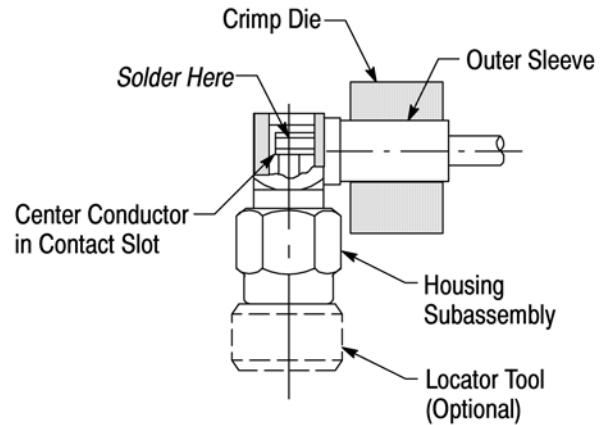

Figure 3
- Secure the housing subassembly to the locator tool as shown in Figure 3. Secure the housing subassembly in a small bench vise.
5. Insert the center conductor into the housing subassembly, making sure that the center conductor sits in the contact slot and is flush to below the contact. See Figure 3.
6. Place the soldering iron on the tip of the contact, and solder. Refer to Figure 3.
7. Slide the outer sleeve over the cable braid, and crimp the outer sleeve in place. Trim excess braid strands. Refer to Figure 3. Remove the assembly from the crimp tool.